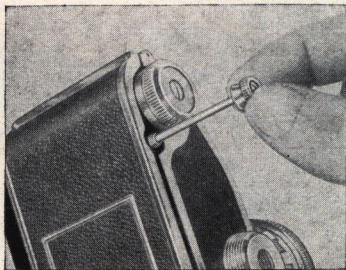

Fig. 42
If the exposed film is wound into a cartridge instead of onto the take-up spool, rewinding is not necessary. As soon as the film is all used up and the film transport lever (6) cannot be moved any more, the film is cut off with the built-in knife (34). Loosen the knife release (35) by turning it to the left. It is fastened on one end of a thin bar, on the other end of which the cutting knife (34) is fixed. If you draw out the knife release (35) from the camera body (about 4 cm) (Fig. 42), the film cutter (34) crosses the film track and cuts off the film strip. Afterwards push the knob (35) back into the camera by turning it to the right. With two "blind" exposures the filmend is drawn into the cartridge